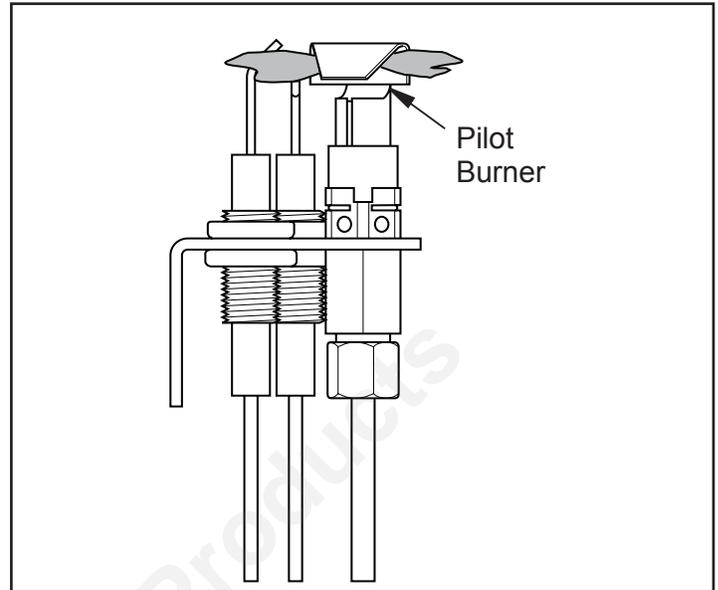

Figure 45 - Correct Pilot Flame Pattern
- Turn the adjustment screw marked PILOT clockwise to decrease or counterclockwise to increase the flame to proper size (see Figure 45). Do not remove the adjustment screw.